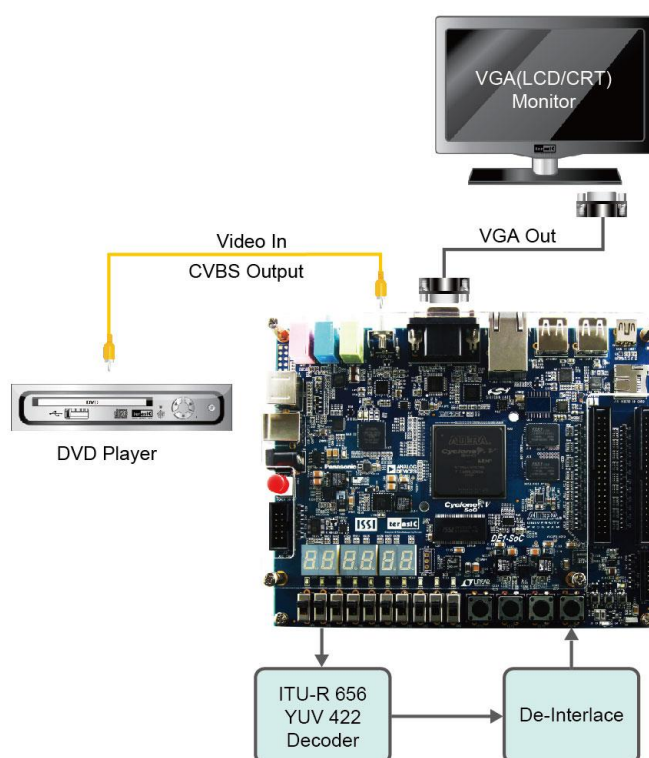

Figure 5-10 Setup for the TV box demonstration
- Connect a DVD player's composite video output (yellow plug) to the Video-In RCA jack (J6) of the DE1-SoC board (See **Figure 5-10**). The DVD player has to be configured to provide: